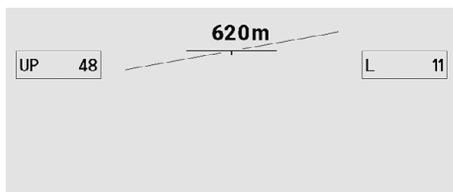

Abb. 4
2. Press the On/Off button (2/1) again briefly to go to the alternative menu (Fig. 4).